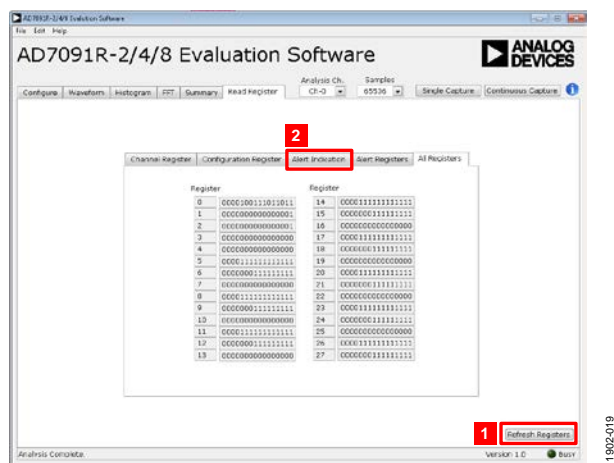

Figure 19. Read Register Tab
All indicators within the **Read Register** tab are automatically updated when this tab is selected. In addition, this tab features a **Refresh Registers** button (labeled 1 in Figure 19) that is useful for monitoring the **Alert Indication** sub-tab while performing data captures and viewing the **Read Register** panel.
The **Read Register** tab as shown in Figure 19 offers the following sub-tabs:
- **Alert Indication** (labeled 2 in Figure 19)